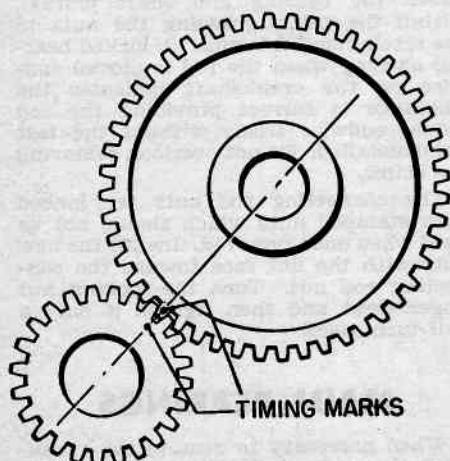

Fig. 11 Valve timing for
12. To install, reverse removal procedure and set valve timing as shown in Fig. 11.
End play of the crankshaft is controlled by the running clearance between the crankshaft gear and gear thrust plate, Fig. 11. The end play is adjusted by shims placed between the thrust plate and the end of the front main bearing. Shims .002 in. thick are available for this adjustment. When the thrust plate or washer is removed, be sure it is reinstalled with the beveled inner edge toward the crankcase.
To set the valve timing, install the crankshaft gear followed by the camshaft gear with the camshaft positioned to allow installation with the timing gear marks meshed, Fig. 11.